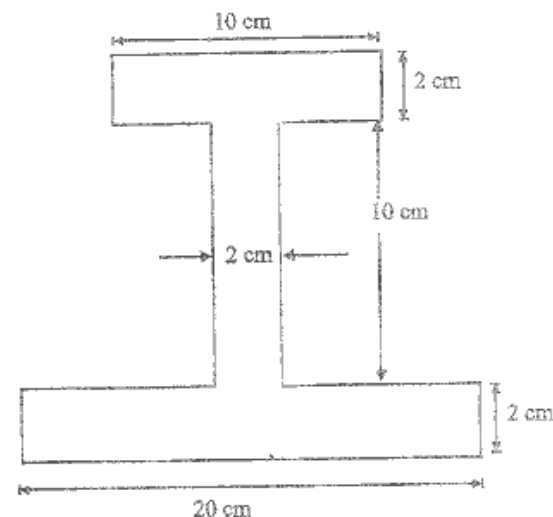

Fig. 2
- (b) For the I section shown in fig. 2 find the moment of inertia about the centroidal axis  $x - x$  perpendicular to web. 14